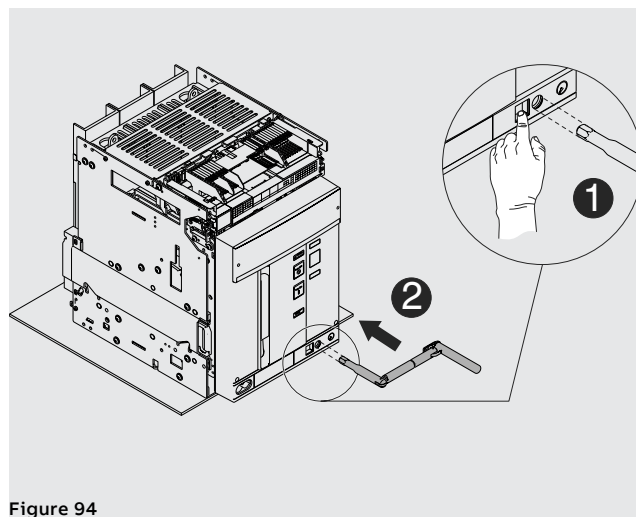

Figure 94
9. Press the lock pushbutton and fit the handle into the moving part. In this phase, the moving part will still be in the **DISCONNECT** position. See Figure 94.